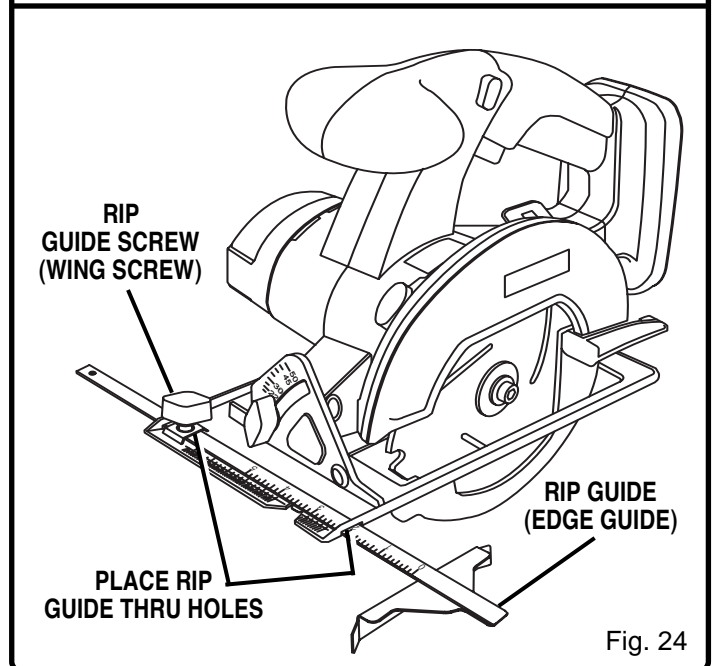

Fig. 24
Use a guide when making long or wide rip cuts with your saw. An optional rip guide with a five inch scale is available or you can make an efficient rip guide by clamping a straight edge to your workpiece. Secure the workpiece. Using C-clamps, firmly clamp a straight edge to the workpiece and guide the saw along the straight edge to achieve a straight rip cut. Do not bind the blade in the cut. If using the optional rip guide, see the following instructions and figure 24.
See Figure 24.
- Place rip guide through holes in saw base as shown in figure 24.